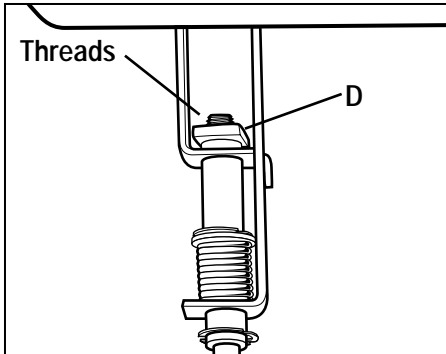

Figure 5-9: One or two threads on Forward Clutch Rod should show above nut.
3. Unthread the Forward Clutch Rod (in a counterclockwise direction as viewed from the front of the unit) until one or two threads on the rod extend above the rectangular nut (D, Figure 5-9) on the forward clutch bracket.